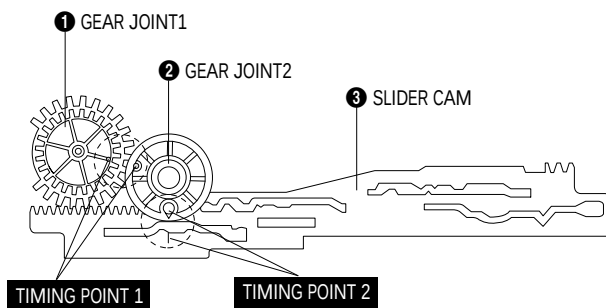

Fig. 1-12 Gear Joint 1,2 Assembly
- 1) Be sure to align dot mark of Gear Joint 1 ❶ with dot mark of Gear Joint 2 ❷ as shown Fig 1-12.